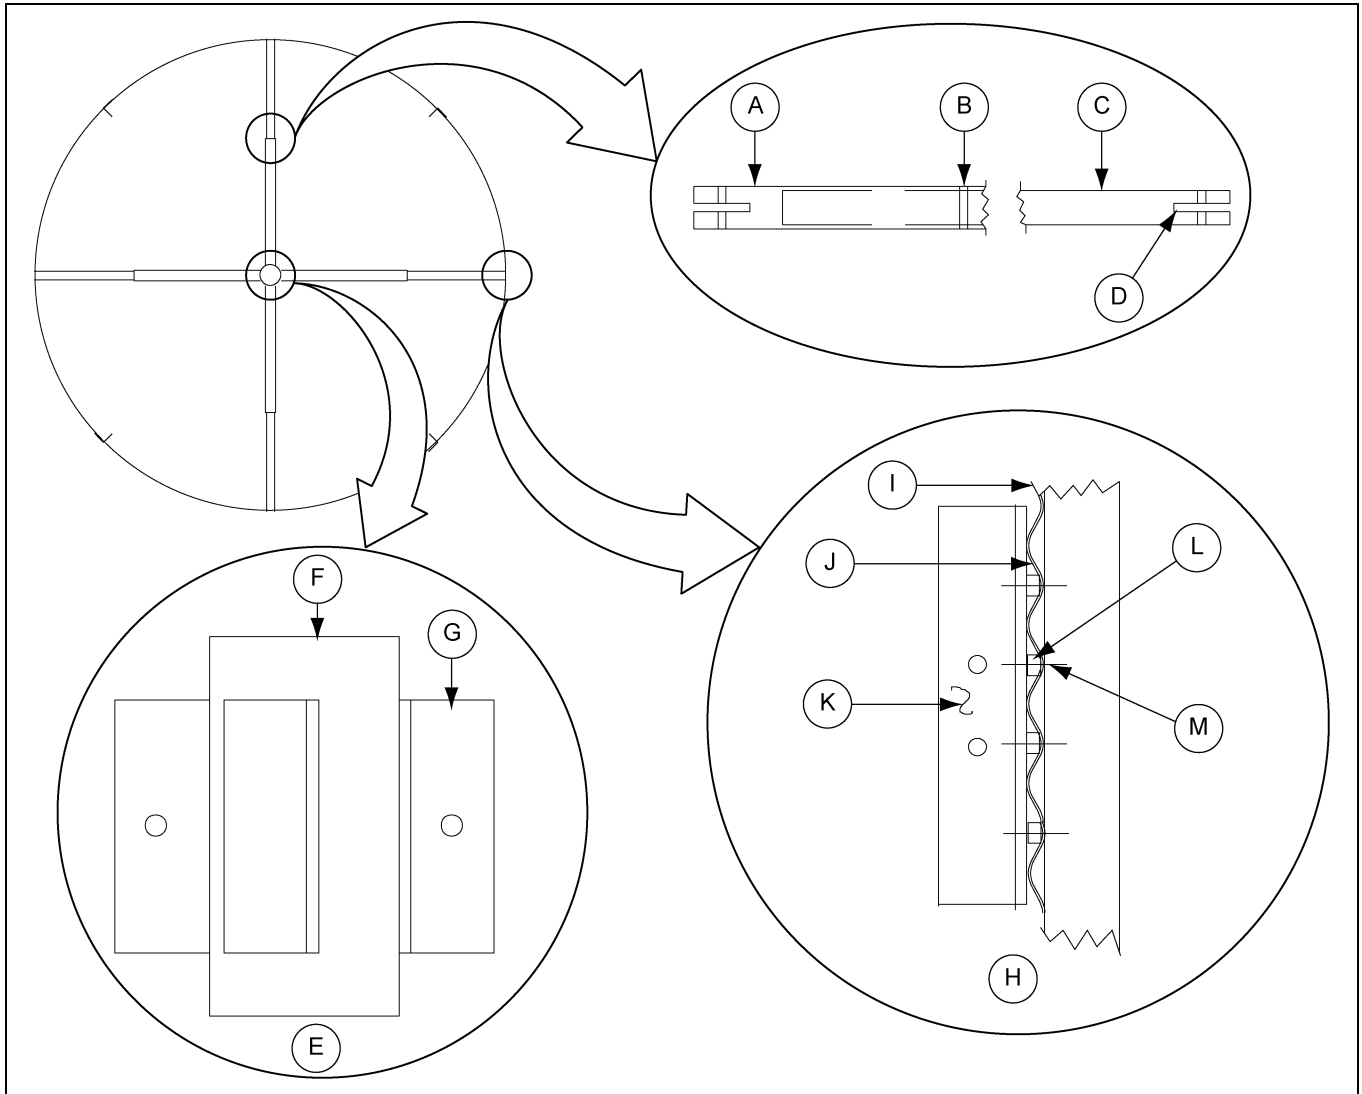

Figure 18C
- b. To prevent distortion of the assembled tank a “spider” or horizontal bracing is recommended. A suggested method of this is illustrated in the following details. This may be done by using a center “hub” and pipe. The center hub would typically be made of 6" schedule 40 pipe with four (4) 3" x 3" x 3/8" angles welded to it and the pipe bolting to the hub. The second smaller pipe would bolt to the lifting brackets attached to the stiffeners. *(See Figure 18C on Page 64.)* Four (4) horizontal braces are recommended.